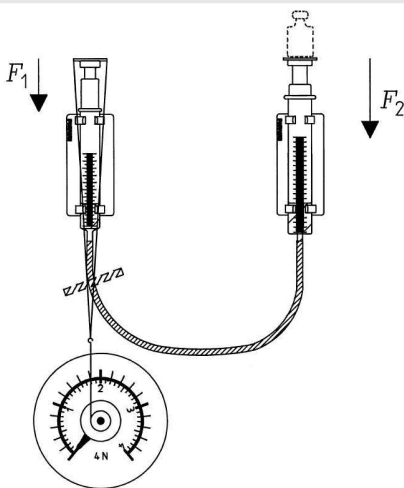

Fig. 2
- Assemble the model of a hydraulic press on the demo board and position it so that the plunger plates are level with the upper edge of the board (Fig. 2).
- If necessary, attach the tube to the board with an adhesive strip (Fig. 2).
The graphical representation of F_1 as a function of F_2 results in a straight line through the origin of the coordinates (Fig. 2). This means $F_1 \sim F_2$ or $F_1/F_2 = \text{konstant}$